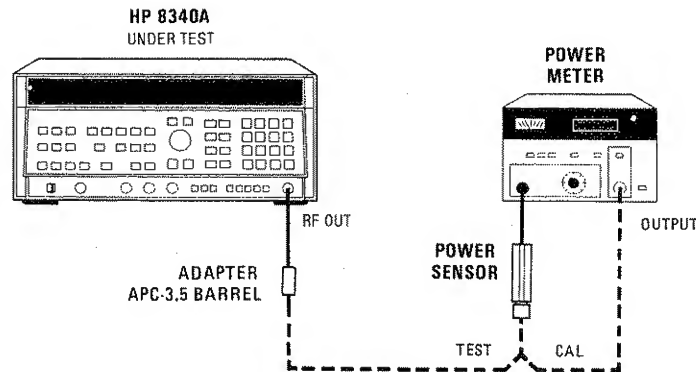

Figure 4-10. Power Sweep Test Setup
1. Connect equipment as shown in Figure 4-10. Connect the 8485A Power Sensor to the Power Meter. Allow at least 30 minutes warm up time. Set the Power Meter's calibration factor switch to include 1 GHz, then zero and calibrate the Power Meter before connecting the Power Sensor to the 8340A.